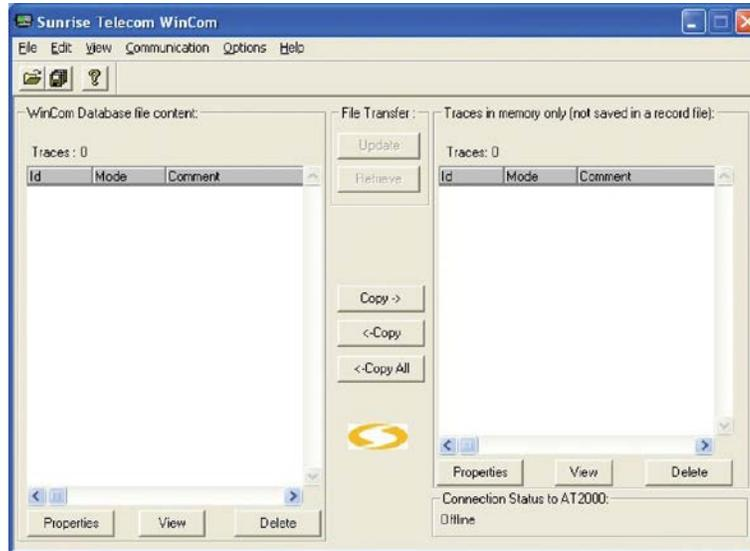

Figure 9-10: WinCom Database File Management Window
2. Click on Retrieve in the WinCom database file management window (see Figure 9-10).
2. Click on copy to move the traces within the file from the WinCom database content (left pane) to the records database (right pane), (see Figure 9-10: WinCom Database File Management Window). The traces selected and copied to the records database will be the ones that will get moved over to the remote analyzer.
- Traces Frame** On the right side of the window, the Traces pane lists the traces in the current Records.bin database file on a remote analyzer or in a records database file on your computer. If no records database is selected, this pane is empty (see Figure 9-10). You can add traces to this pane to update a database.